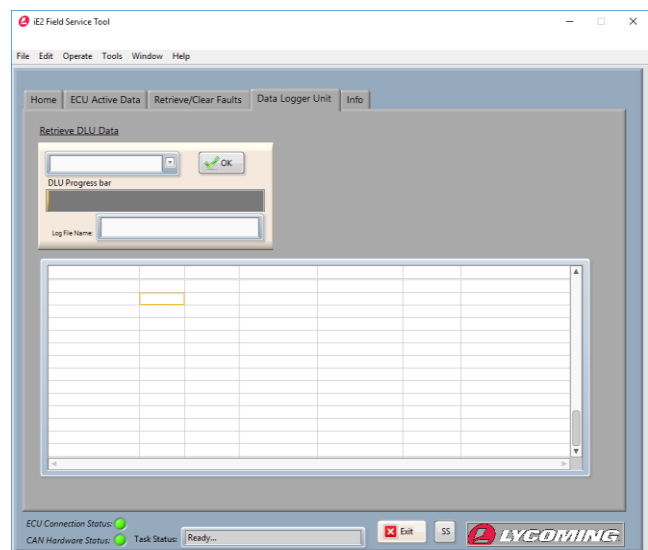

Figure 12
2. Click on the “Data Logger Unit” tab (Figure 12).